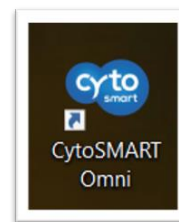

fig. 4. CytoSMART® Omni app icon.
1. Start the preinstalled CytoSMART® Omni app by double clicking on the icon on the desktop (fig. 4).